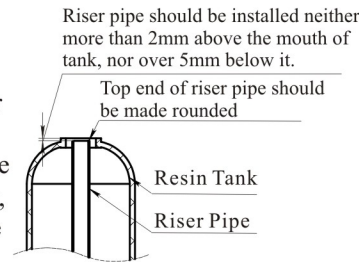

Figure 1
① The filter should be as much close to the drain outlet as possible; and better make sure to install the system at the place where no much loss would be caused in case of water leakage.
② As in Figure 1, riser pipe should be installed neither more than 2mm above the mouth of tank, nor over 5mm below it, with its top end being made rounded to avoid damaging the O-ring of riser pipe.
③ Make sure not to slide off the O-ring of base when you install the valve.
④ Keep inlet and outlet pipelines parallel with one another, and fix them with support holder.
⑤ It's forbidden to use pipelines or connectors as supporting or lifting tool; Do not tighten or unscrew thread pipes with too much force, in case of damaging the valve.
⑥ PPR pipe, corrugated pipe and UPVC pipe are recommended in pipeline construction instead of polyethylene-aluminum pipe.
⑦ The control valve should be mounted above the drain outlet.